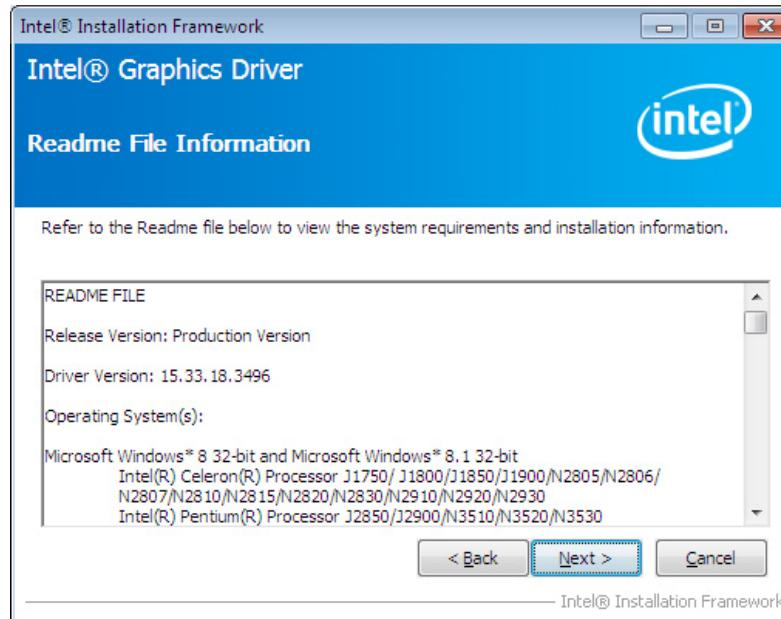

Figure 6-10: Graphics Driver Read Me File
Step 9: The Read Me file in Figure 6-10 appears. Click Next to continue.